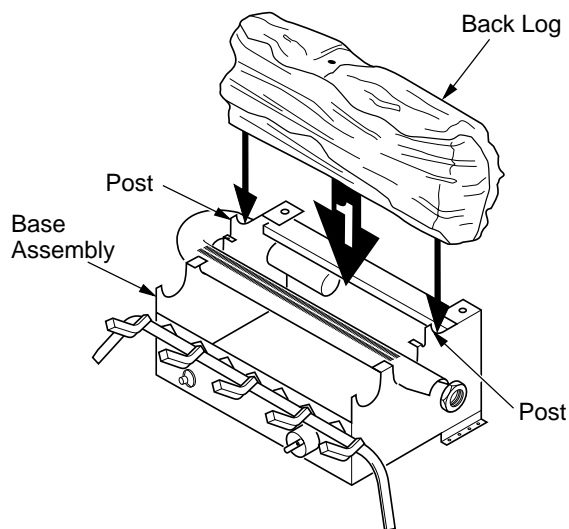

Figure 35 - Installing Back Log
1. Place the back log onto the back of the base assembly. Make sure log sits forward against the two posts in front of log (see Figure 35). This log may be turned to face either direction.